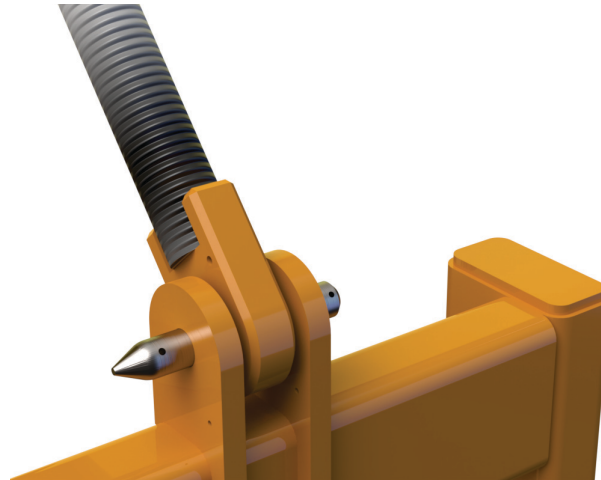

Figure 9: Aligning blower support arm
- Install the lower lug onto the top drive pad eye and install clevis pin as shown in Figure 9.